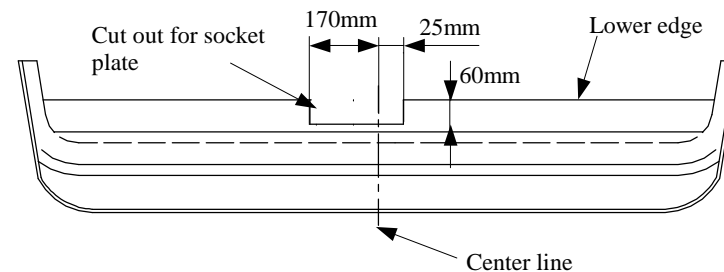

Fig. 2 Bumper cut out (top view)
6. Cut out the bumper according to fig. 2 and mount it to the car.